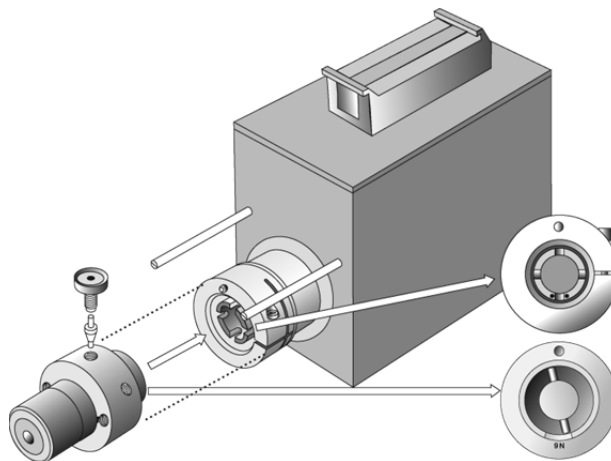

**Figure 59.** Replacing the Injection Valve VICI/Valco Cheminert Type
To replace and/or clean the injection valve, Cheminert type, follow the steps shown in Figure 59.
3. Check that the valve guide pin remains at its position and observe the guide marks as shown in Figure 59.